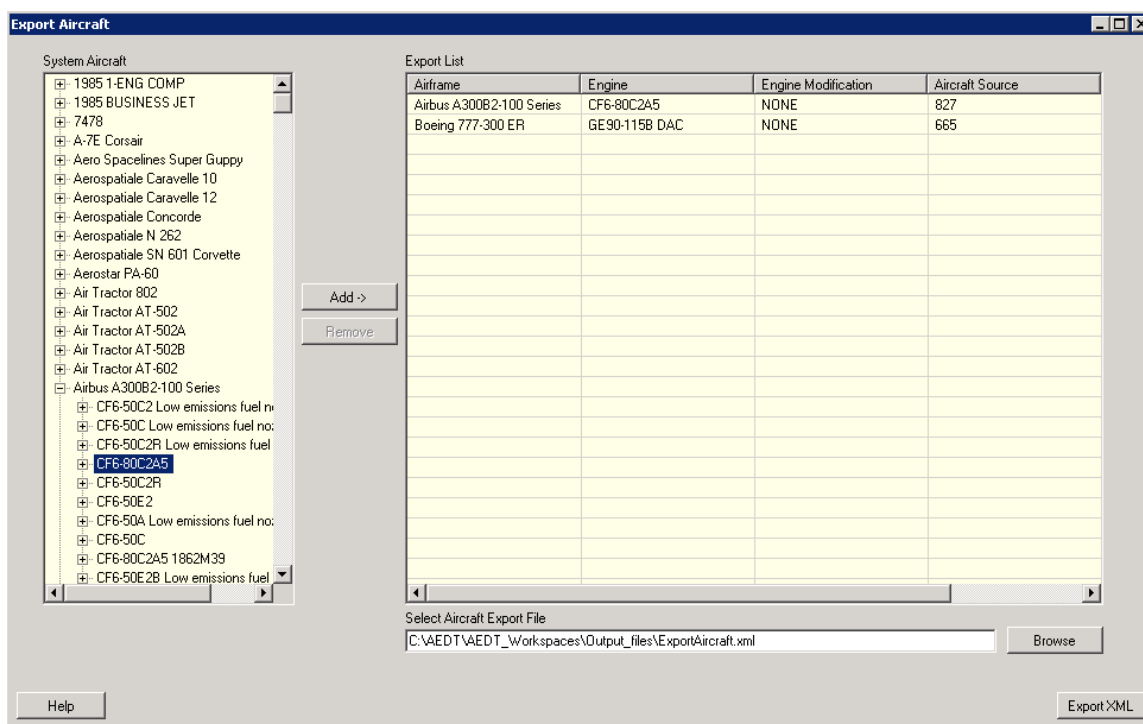

Figure 5-9 Export Aircraft Dialog Box
2. To add an aircraft/engine combination, select the combination of interest from the *System Aircraft* list and click *Add* (Figure 5-9).